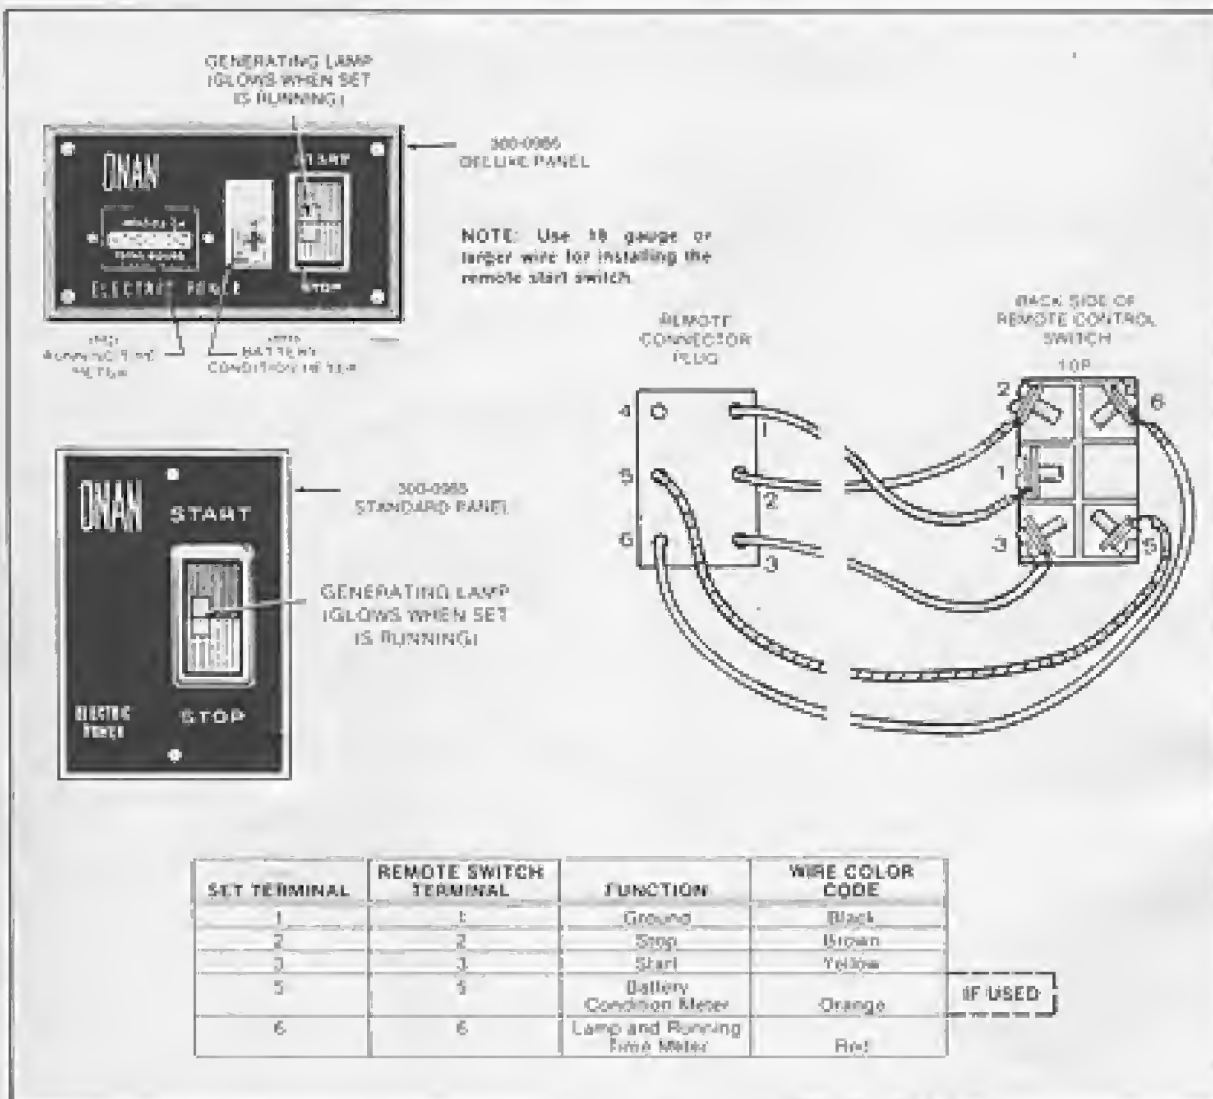

FIGURE 11. WIRING CONNECTIONS FOR 300-0985 AND 300-0986 REMOTE CONTROLS
2. Following national local electrical codes and using #18 or larger insulated wires of predetermined length, connect remote control to generator set. Ensure that leads from remote control connect to corresponding terminals on generator set. Refer to Figure 11 for wiring connections.